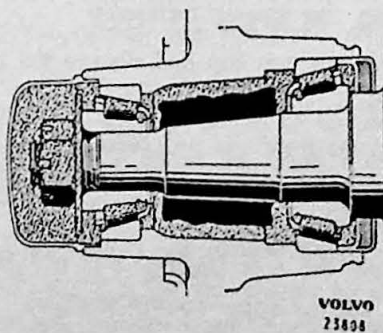

Fig. 6-13. Lubricating the front wheel bearings
8. Fill grease into the bearings with the help of a pressure lubricator. If a lubricator is not available, pack in as much grease by hand as will fill up the space between the roller retainers and the bearing inner ring. Also smear grease on the outside of the bearings and on the outer rings pressed in the hub. The recess in the hub is filled with grease all round up to the smallest diameter of the outer ring of the outer bearing, see Fig. 6-13.